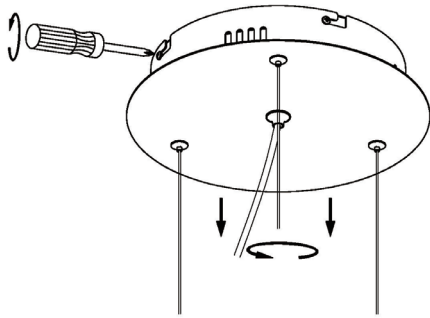

Figure 1
1. Relief 4 screws from Canopy side, Rotate Mounting Bracket and take it out from Canopy. See figure 1.